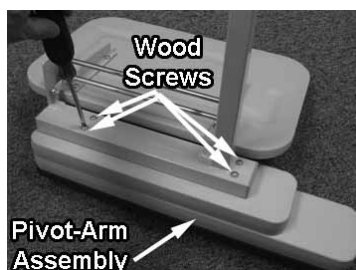

FIG. 4
2. Use a Phillips or #2 square bit screwdriver to remove the **(4) wood screws** on underside of arm assembly that hold the **Pivot Arm assembly** onto the steel **Arm Support (FIG. 4)**.